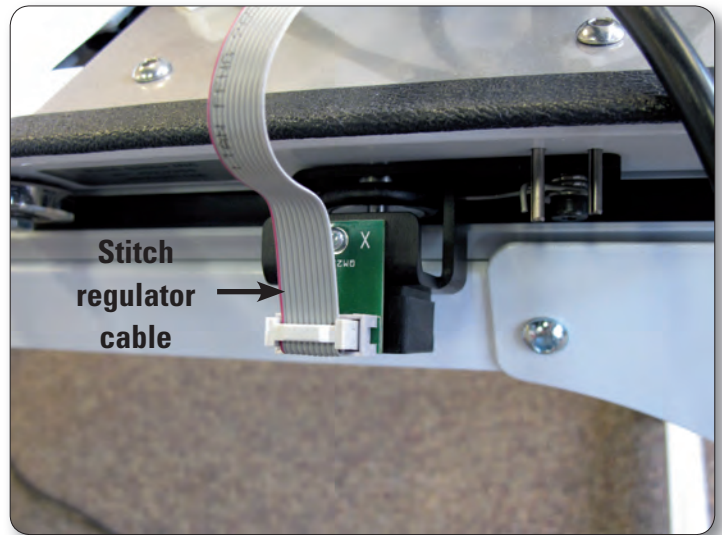

Figure 14
5. With one end of the stitch-regulator cable plugged into the machine's C-Pod and the middle connector plugged into the quilting machine's "Y" encoder, plug the other end of the cable into the carriage "X" encoder (Figure 14).